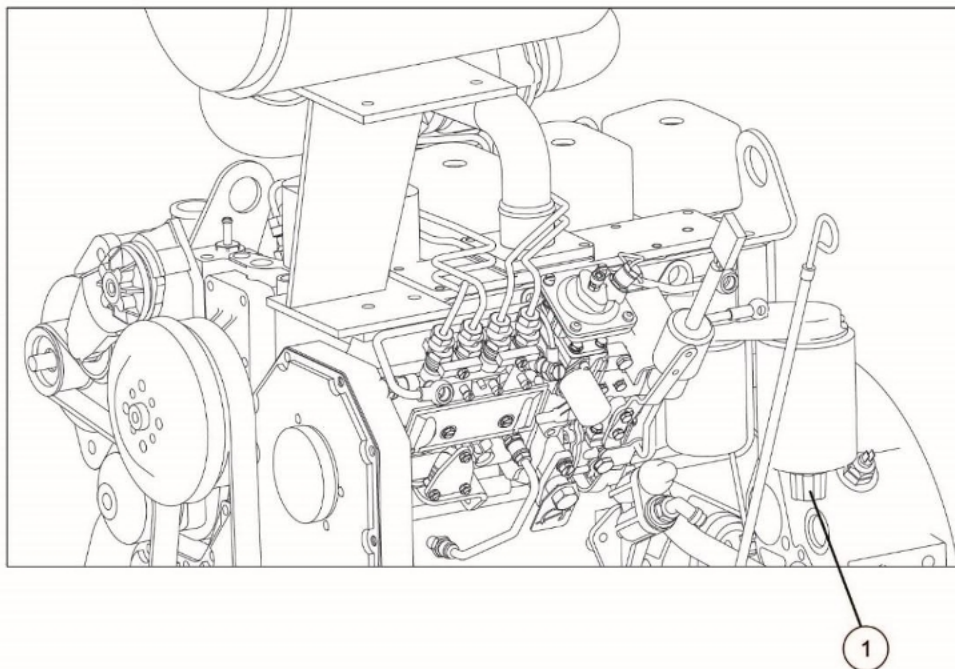

Figure 5-40 Draining fuel filter
(1) Drain valve
Step 3: Unscrew the drain knob (1) under the fuel filter to drain until the yellow liquid (diesel) flows out, as shown in Figure 5-40;